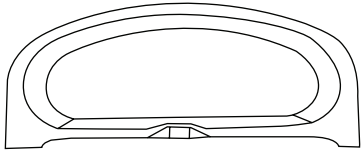

Fig. 3
- To lock brakes: Apply light downward pressure to the linked brake lever located on the rear wheel axle. (Fig. 3) Check that the stroller will not move and that the brakes are properly applied.
- To attach child tray: First, rotate and align left and right side of child tray posts with the left and right side stroller tray posts. Slide left and right side child tray into left and right side stroller tray posts into a fully locked position. (Fig. 3) Check to make sure child tray is securely attached to the stroller by pulling upward on the child tray.